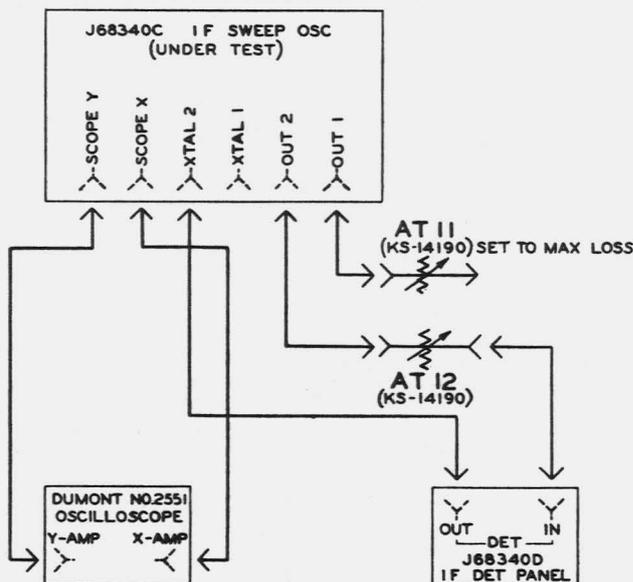

Fig. 4 - Circuit to Check Frequency Range, Flatness and 70MC Calibration
- (1) Set up the circuit of Fig. 4. It is assumed that the 30 cycle switch circuit is operating in accordance with pars. 3.13 to 3.15. The oscillator sweep motor should be turned on; and the SLOPE switch off. Attenuator AT12 should be set to 15 db. The oscilloscope should be switched to external sweep, with blanking on. The gain controls should be set to give a horizontal width of about 3 inches, and a vertical separation between the two horizontal traces of about 2 inches.
- (2) Note that the pip from the IF frequency meter in the oscillator panel is visible on the upper trace.